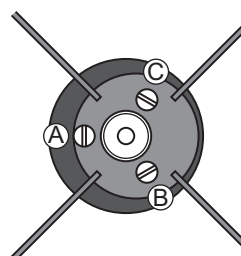

Figure C-20
2. In a case like Fig. C-18, loosen the adjustment screw C as in Fig. C-20 and the width of the secondary holder as seen from above and below becomes uniform.